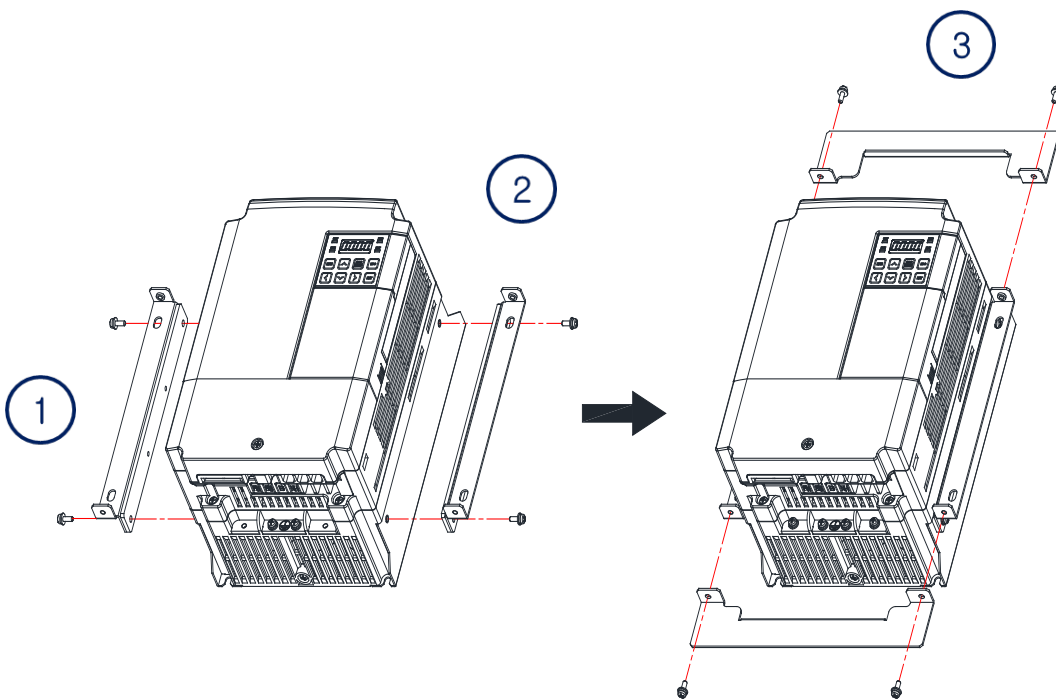

Figure 2. Install and Side Viewing
① Insert the Flange Option to fit on the product side Base fastening the both sides positions as shown in the Figure 2.
② Using the included Bolt and tighten with the specific torque to prevent loose.
③ Fasten the Flange Option with the reminder using included Bolt.